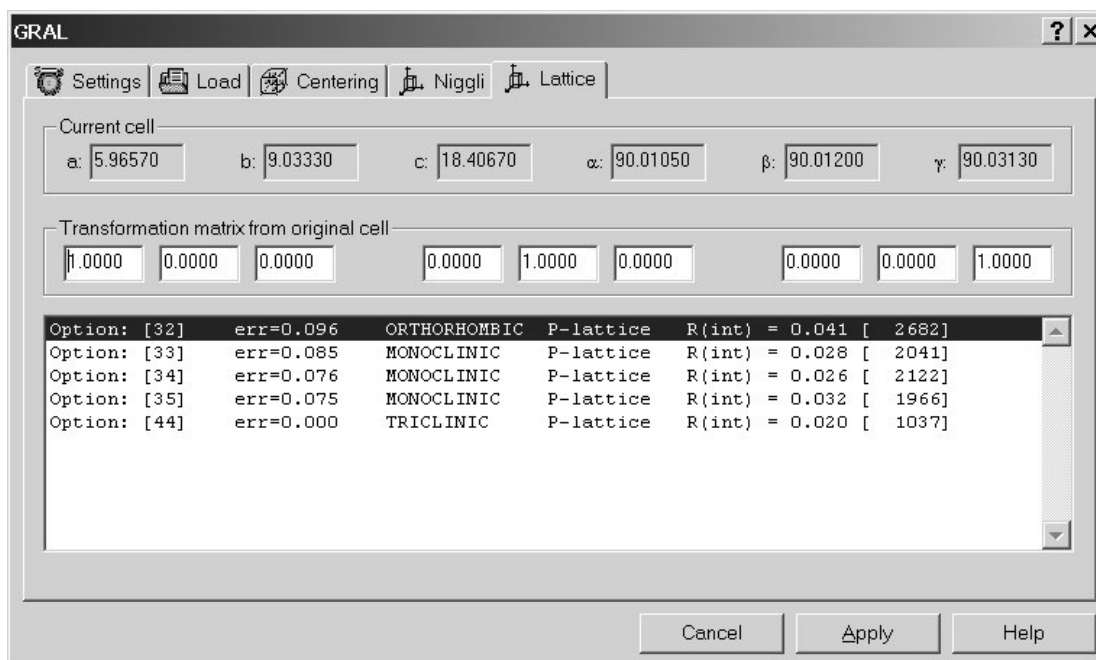

Figure 6.5.36 Screenshot of the GRAL plug-in Lattice Window
7. The GRAL plug-in provides a list of possible Bravais lattice and highlights in blue the programs' preferred choice. Figure 6.5.36 shows the ORTHORHOMBIC P-lattice as the preferred choice. Clicking on "Apply" will accept the plug-ins' choice, however, anyone of the alternatives may be selected by clicking on the option in the text box and then clicking "Apply".